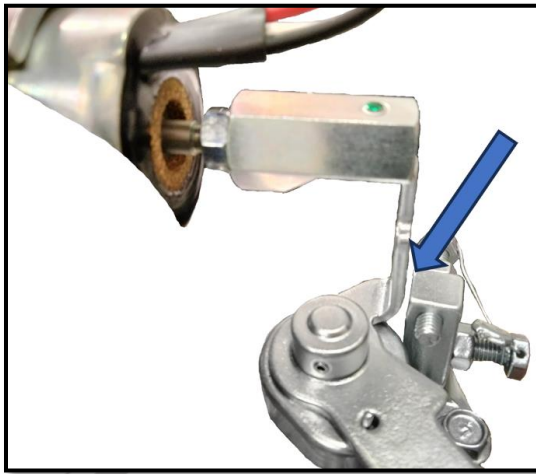

Figure 27: Spacing between Stop Lever and Stop Block
4. Person 2: Adjust the position of the solenoid so that the stop lever is 1/32" from the stop block on the governor. As shown in Figure 27.